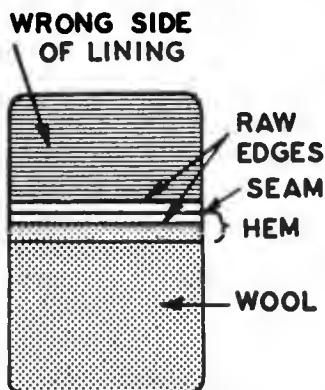

Fig. 146. Joining lining and hem.
- B. Stitch a  $\frac{1}{4}$ -in. seam. Press (Fig. 146).